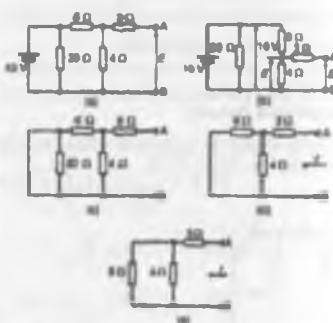

Figure 13.32
- (v) For the circuit shown in Fig. 13.32(a), the $3\ \Omega$ resistor carries no current and the p.d. across the $20\ \Omega$ resistor is 10 V. Redrawing the circuit gives Fig. 13.32(b), from which
- (vi) If the 10 V battery in Fig. 13.32(a) is removed and replaced by a short-circuit, as shown in Fig. 13.32(c), then the $20\ \Omega$ resistor may be removed. The reason for this is that a short-circuit has zero resistance, and $20\ \Omega$ in parallel with zero ohms gives an equivalent resistance of $(20 \times 0)/(20 + 0)$ i.e. $0\ \Omega$. The circuit
is then as shown in Fig. 13.32(d), which is redrawn in Fig. 13.32(e). From Fig. 13.32(e), the equivalent resistance across AB,